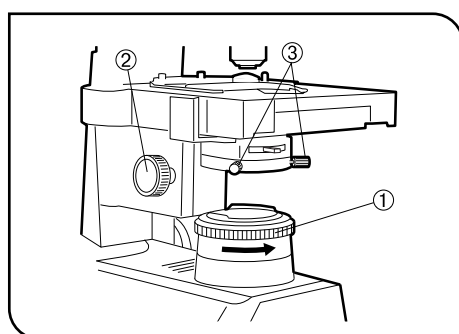

Fig. 15
## 1 Centering the Field Iris Diaphragm (Figs. 15 & 16)
1. With the 10X objective engaged and the specimen brought into focus, turn the field iris diaphragm ring ① counterclockwise to stop down the diaphragm to near its minimum size.
2. Turn the condenser height adjustment knob ② to bring the field iris diaphragm image into focus.
3. Rotate the two auxiliary lens centering knobs ③ to adjust so that the field iris diaphragm image is centered in the eyepiece field of view. (Figs. 15 & 16)